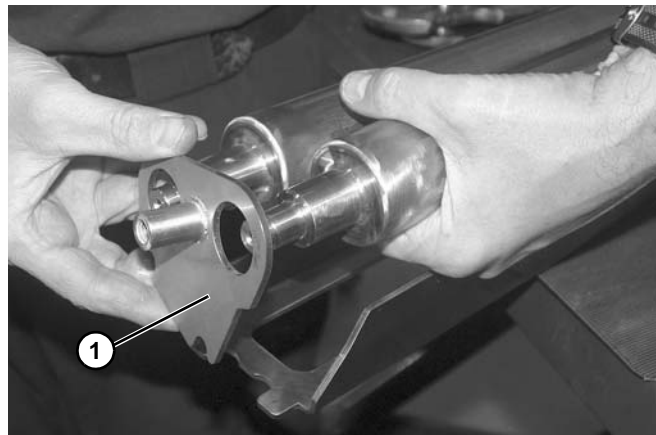

Figure 164
9. Remove plate (Figure 164, item 1) from both spindles.